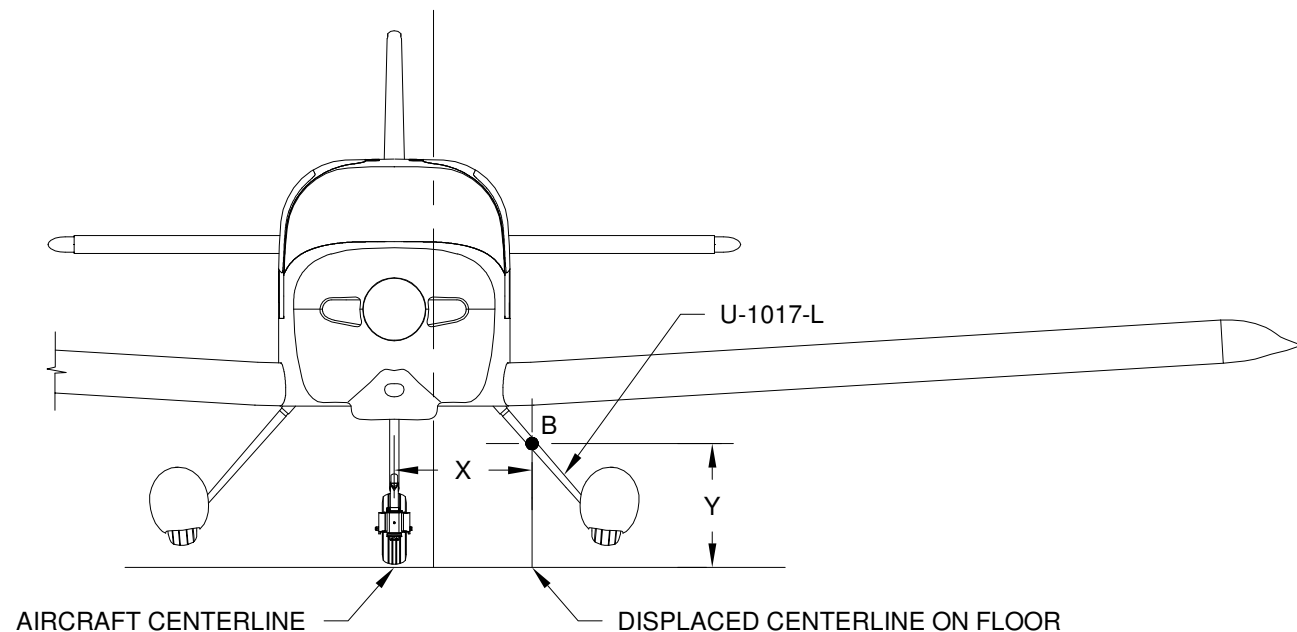

FIGURE 2: MEASURING FROM AIRCRAFT CENTERLINE AND FLOOR
Step 2: Drop plumb bobs from the aircraft centerline to the floor and snap a line on the floor between these two points. Create a displaced centerline (parallel to the real centerline) on the floor beneath an arbitrary point "A" on the horizontal part of the WD-1007-L Step. It could be established elsewhere but the step is very convenient spot. Drop a plumb bob from point "A" to the floor and measure the span wise distance "X" from below point "A" to the center of the fuselage. Snap a line from below the step forward past the gear leg fairing the distance "X" from and parallel to the aircraft centerline. This is the displaced centerline. Drop a plumb bob from the leading edge of the U-1017-L Gear Leg Fairing to the displaced centerline as shown in Figure 2. This locates point "B" on the leading edge of the fairing.